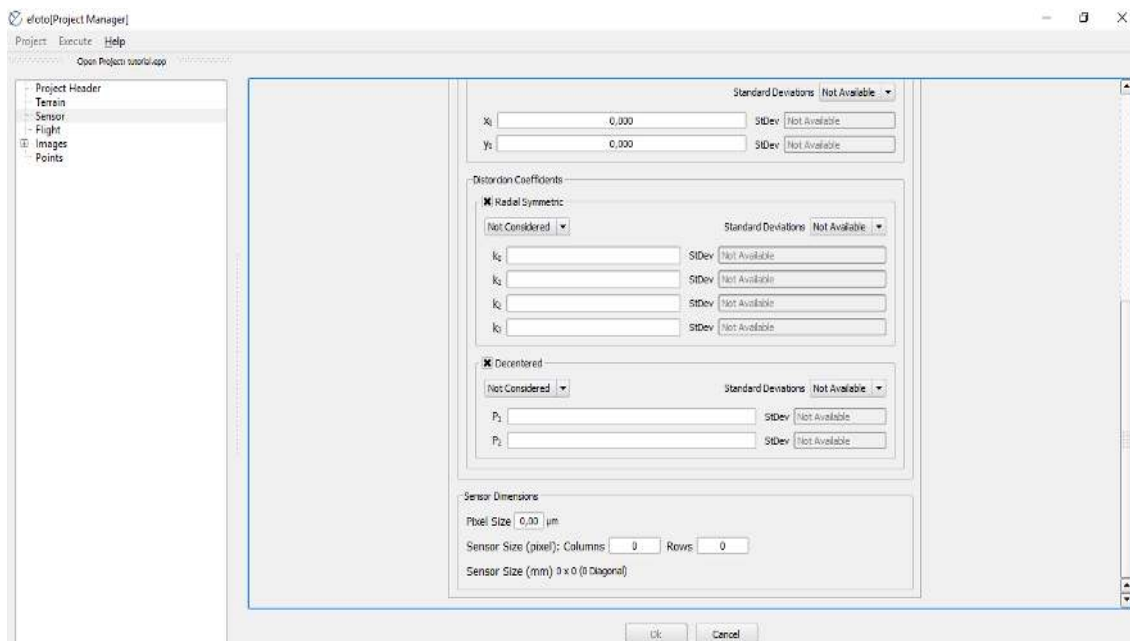

Figure 9 - The Sensor Form
- Sensor dimensions (if the calculation model is **“With Sensor Dimensions”**)(Figure 9):